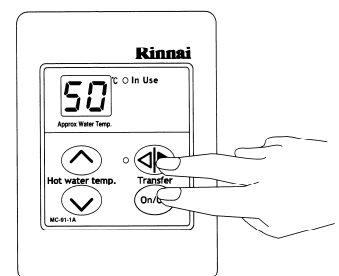

Fig. 2
**STEP 1:** On the Master controller press and hold the **Transfer** and **ON/OFF** buttons simultaneously (see Fig. 2) until a “beep” is heard (approx. 5 seconds).